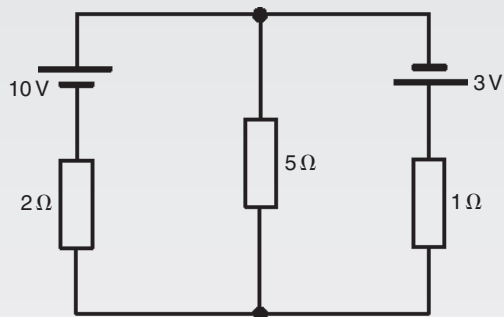

Figure RT4.1
1. Find the current flowing in the 5Ω resistor of the circuit shown in Fig. RT4.1 using (a) Kirchhoff's laws, (b) the superposition theorem, (c) Thévenin's theorem, (d) Norton's theorem.